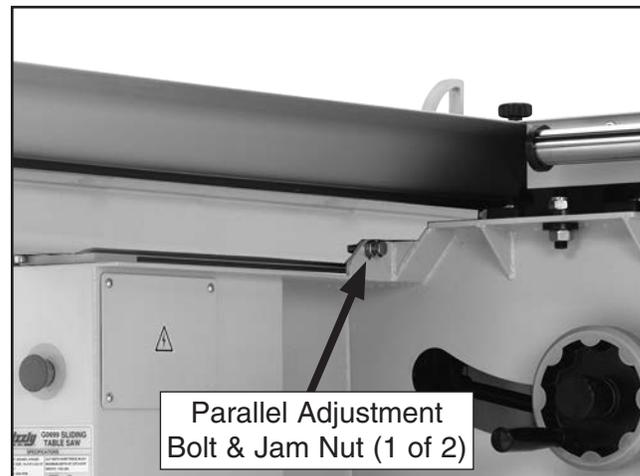

Figure 144. Sliding table parallel adjustment bolt (1 of 2).
8. Loosen the jam nuts on the sliding table parallel adjustment bolts (see **Figure 144**) that are on both sides of the frame behind the sliding table, then adjust the bolts in or out in small increments to change the parallel relationship of the sliding table to the saw blade.